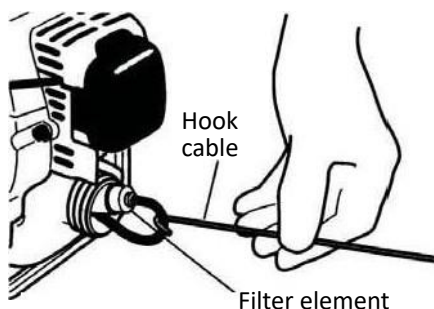

Figure 19
- Use a hook cable to extract the fuel filter from inside the tank (figure 19). Inspect the fuel filter element if it shows signs of contamination. Replace it with a new one if necessary. Before reinstalling the filter, inspect the fuel line. If there is any damage or deterioration, remove the unit from use so it can be inspected by an experienced technician.